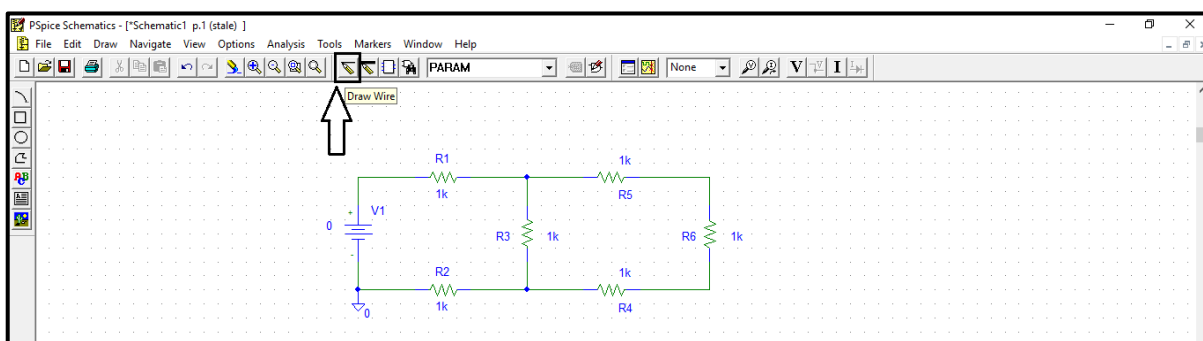

Figure.7
- To connect the components, click on “draw wire” icon shown in figure.7, a **common mistake** that students do is clicking on “draw bus” icon which is next to “draw wire”. Avoid doing this mistake!